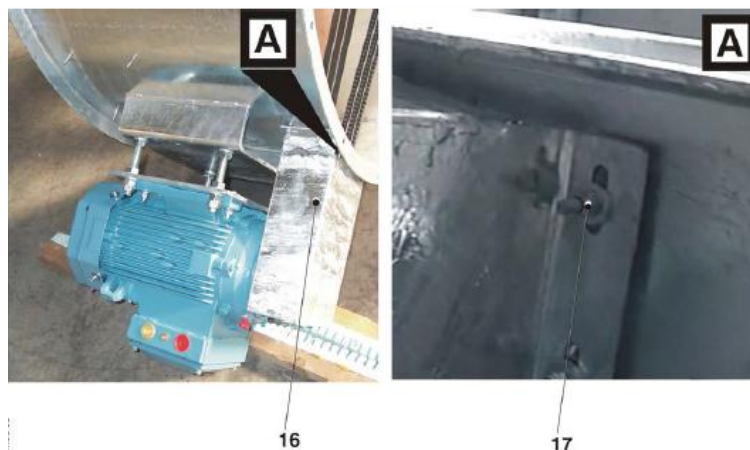

Figure 2-4: Driver pulley protection installation of the GFF-01 / GFF-04 / TFF-09 / TFF-12 fan series.
17. Install the driver pulley protection (16, Figure 2-4) on the screw base, using the pre-arranged screws on the structure, the nut and the washer (17).